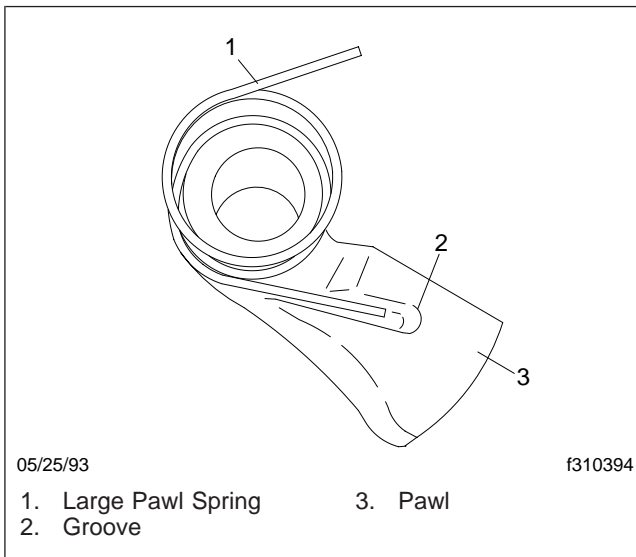

Fig. 4, Pawl and Pawl Spring
3. Place a new large spring on the pawl, so that one leg of the spring fits into the groove in the pawl. See **Fig. 4**.